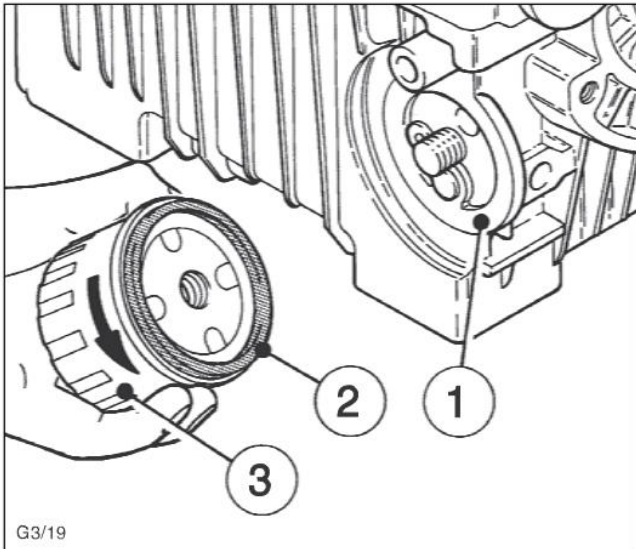

Fig.20
- Add engine oil to the oil tank up to mark "6" and re-assemble the oil bath air cleaner (fig.20, chap.4.1.2.).